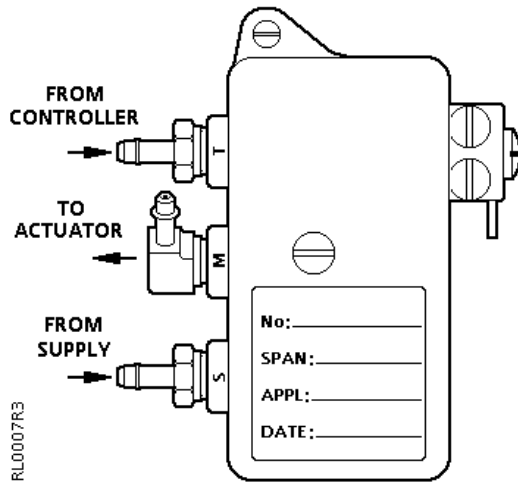

Figure 4. Relay Ports.
9. Make pneumatic piping connections to the actuator and relay. The "S" Port is the air supply port. The "M" Port goes to the connector on the actuator. The "T" Port is the signal from the controller. See *Figure 4*.
10. Place the calibration label on the cover as shown in *Figure 4*. Mark for reference. (Optional) Attach the relay cover if you are not calibrating immediately.